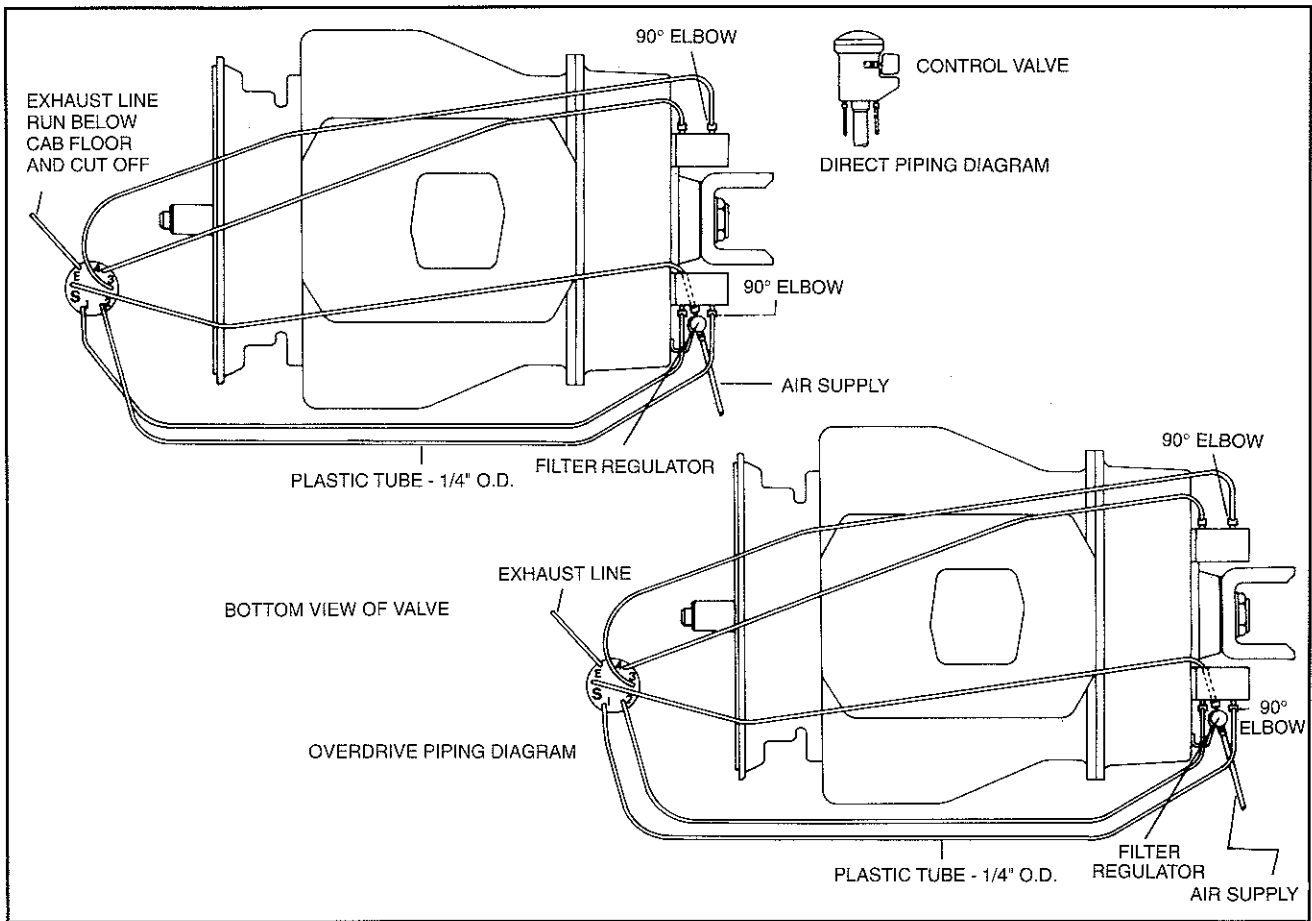

Figure 2
5. Install the pneumatic system hoses as shown in Figure 2.